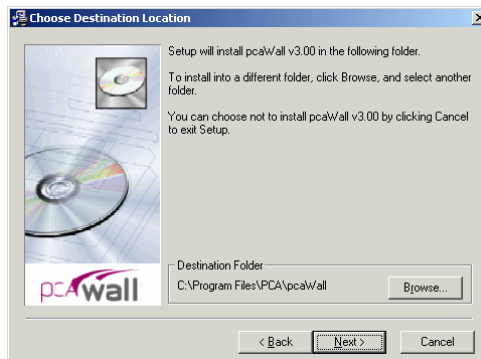

Figure 1-5. Choose Destination Location
7. The next setup is to decide the directory where pcaWall is to be installed as shown in Figure 1-5. The default one is C:\Program Files\PCA\pcaWall. You may press the BROWSE button to locate the directory. If the directory does not exist, the setup program will create it. Press the NEXT button to go to the next step.